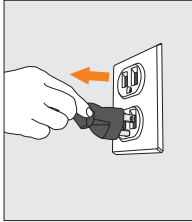

Figure 10
- 7.1 Turn off the electrical supply and disconnect the power cord (Figure 10).